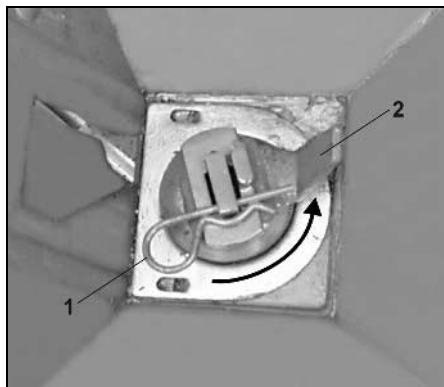

Fig. 51
- Pull off clip pin (Fig. 51/1).
- Remove agitator head extension (Fig. 51/2).